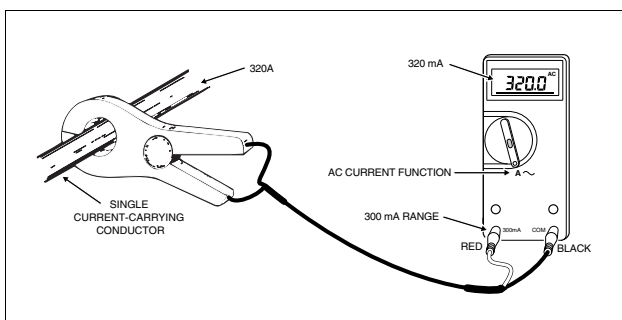

Figure 1. Typical 80i-600A Using a Typical Meter
When the 80i-600A is connected to a compatible current meter and clamped around a single current-carrying conductor, the meter reading will be one 1000th of the actual current in the conductor. For example, a 5-ampere (A) input current will be transformed into a 5 milliampere (mA) output current (see Figure 1).
3. Clamp the probe around the current-carrying conductor to be measured (see Figure 1). Make sure the probe jaws are tightly closed around the conductor.